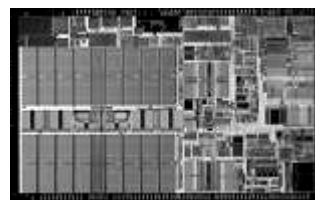

Figure 3. Pentium™ III Die on 130nm Technology
Most recently, Intel has led the industry in early 2001 with the high volume manufacturing ramp of a 130nm technology featuring high performance 70nm dual Vt transistors, copper and low k dielectric interconnect and  $2\mu\text{m}^2$  SRAM cell size (2). Table 1 summarizes design rules for this technology. Figs. 3 and 4 show Pentium™ III die and relative performance for 130nm and 180nm process technologies.